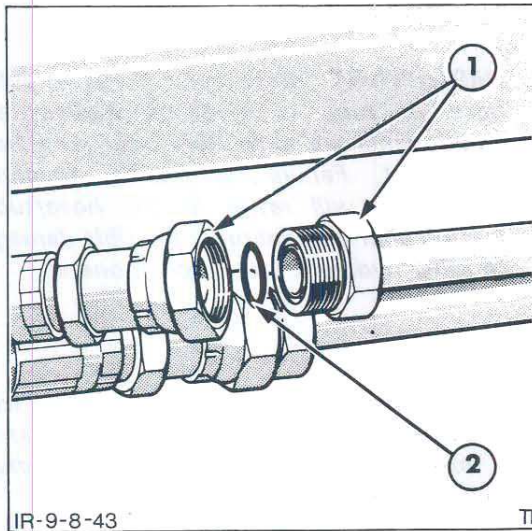

Figure 43
1. Release the fittings and separate the hose or tube assembly, then remove and discard the 'O' ring seal from the fitting, Figure 43.